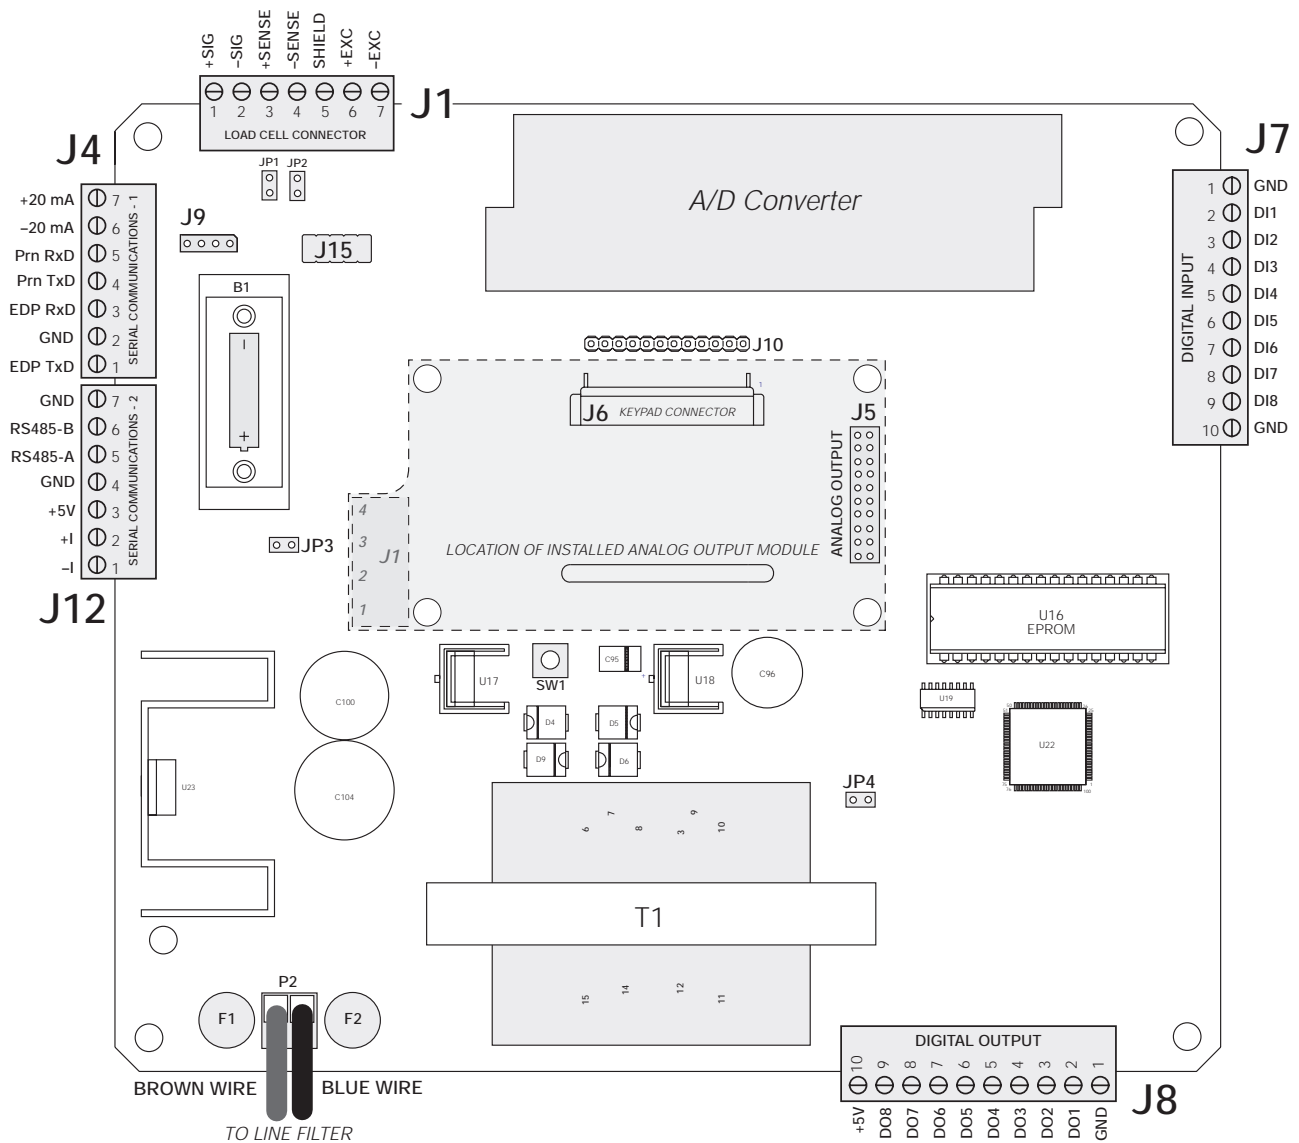

Figure 2-1. IQ plus 710 CPU and Power Supply Board, Version 2
To attach cable from a load cell or junction box, remove connector J1 from the board. The connector plugs into a header on the board (see Figure 2-1).
Wire the load cell cable from the load cell or junction box to connector J1 as shown in Table 2-1. If using 6-wire load cell cable (with sense wires), remove jumpers JP1 and JP2 before reinstalling connector J1 (see Figure 2-1). For 4-wire installation, leave jumpers JP1 and JP2 on.
Mount the analog output module on its standoffs in the location shown in Figure 2-1 on page 5 and plug the module input into connector J5 on the IQ plus 710 board. Connect the output cable to the analog output module as shown in Table 2-4, then reassemble the enclosure (Section 2.5).
2. Unplug connectors J1 (load cell cable), J4 and J12 (serial communications), J7 and J8 (digital I/O), J6 (keypad ribbon cable), and JP4 (setup switch). If an analog output board is installed, disconnect the analog output cable. See Figure 2-1 on page 5 for connector locations.